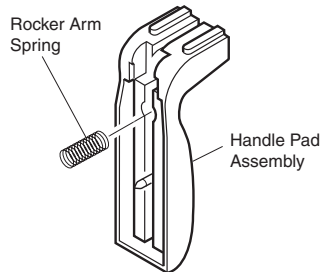

Figure 7 - Removing Rocker Arm Spring from Handle Pad
2. Pull rocker arm spring away from handle pad assembly to remove (see Figure 7)